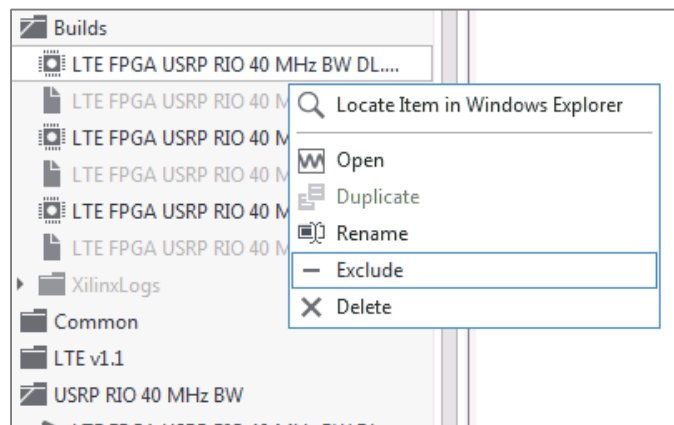

Figure 37 - Exclude and include the FPGA Top-Level again to make sure it is loaded correctly
13. (Recommended) Once the bitfile is finished building, exclude it from the project as shown in Figure 37 and include it again. This will ensure that the latest changes are actually applied.